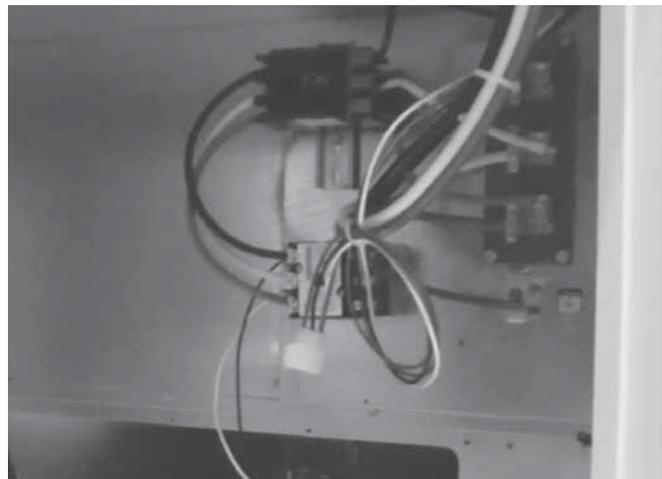

Figure 6. Single Circuit Breaker & Contactor
7. Mount element control contactor (1 or 2 depending on kit) to the control panel with two screws. Make sure L1/L2/L3 wiring point to the left. See Figure 6.